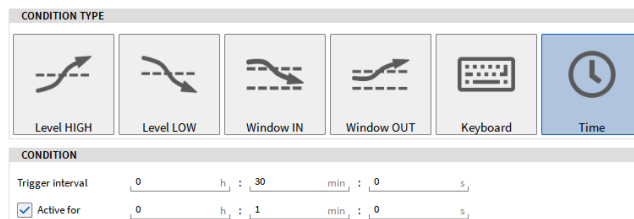

Figure 7-8: Trigger on *Time Event*
- Time Event: The event is activated in the dependency of a time condition. In the example in Figure 7-8, the event is activated every 30 minutes for a duration of 1 minute. If the *Active for* option is not enabled, the Event will be active for one Sample interval, i.e. for 1 ms if the sample Rate is 1 kHz. The red indicator (see ① in Figure 7-9) won't highlight if the *Active for* option is not enabled.